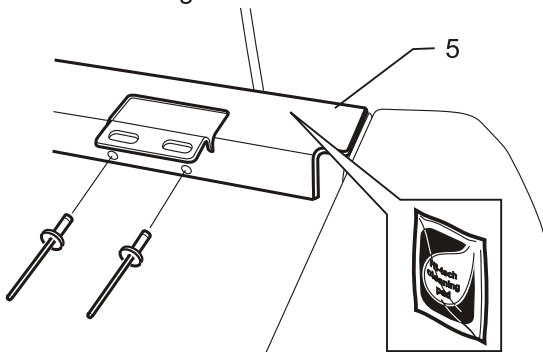

Figure 6
10. Drill 4, 5mm holes in the tub sheet metal to fit the rivets supplied (2 each end of the canopy front rail). Apply G16 anti-corrosion grease to the hole before installing the rivets. Refer to figure 6.